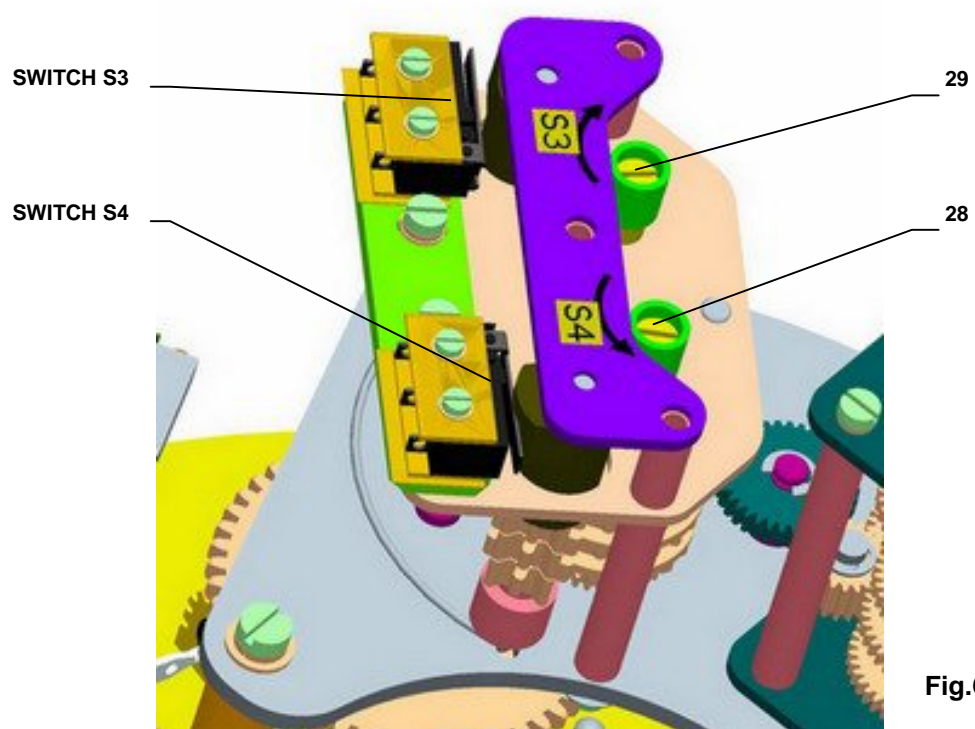

Fig.6
Check of position switches (Fig.6,8). When the actuator moves towards "close" switch over contacts of switches S4 resp. S6 by pressing of disconnecting bell of relevant switch. If the connection is properly performed, the actuator must stop when contacts of switch S4 are switched over and light up when contacts of switch S6 are switched over. Analogous repeat test towards "open". By pressing disconnecting bell of switches S3 resp. S5, the actuator must stop resp. signalize. Again, if any of the function is not correct, connection of switches should be checked according to wiring diagram.
4.2 Position switches adjustment (S3,S4) (Fig. 6)
EA is delivered set to a stroke corresponding to 6.° according to table 3 or to a stroke required by customer. The stroke referred on the type label of EA corresponds to the maximum stroke with the gear unit set to 11.° according to table 3. The procedure for position switches setting, adjustment a new setting is as follows (Fig. 6, 7):
Move EA to the "open" position electrically or manually. If, with electric move, EA has been switched off by S3 switch (Fig. 6), insert a screwdriver into set screw (29), press it and rotate in the arrow direction until an appropriate cam opens S3 switch. Pull the screwdriver out (see notice 1) and continue in moving EA in the „open“ position.
Move EA to the "close" position electrically or manually. If, with electric move, EA has been switched off by S4 switch (Fig. 6), insert a screwdriver into set screw (28), press it and rotate in the arrow direction until an appropriate cam opens S4 switch. Pull the screwdriver out (see notice 1) and continue in moving EA in the „open“ position.